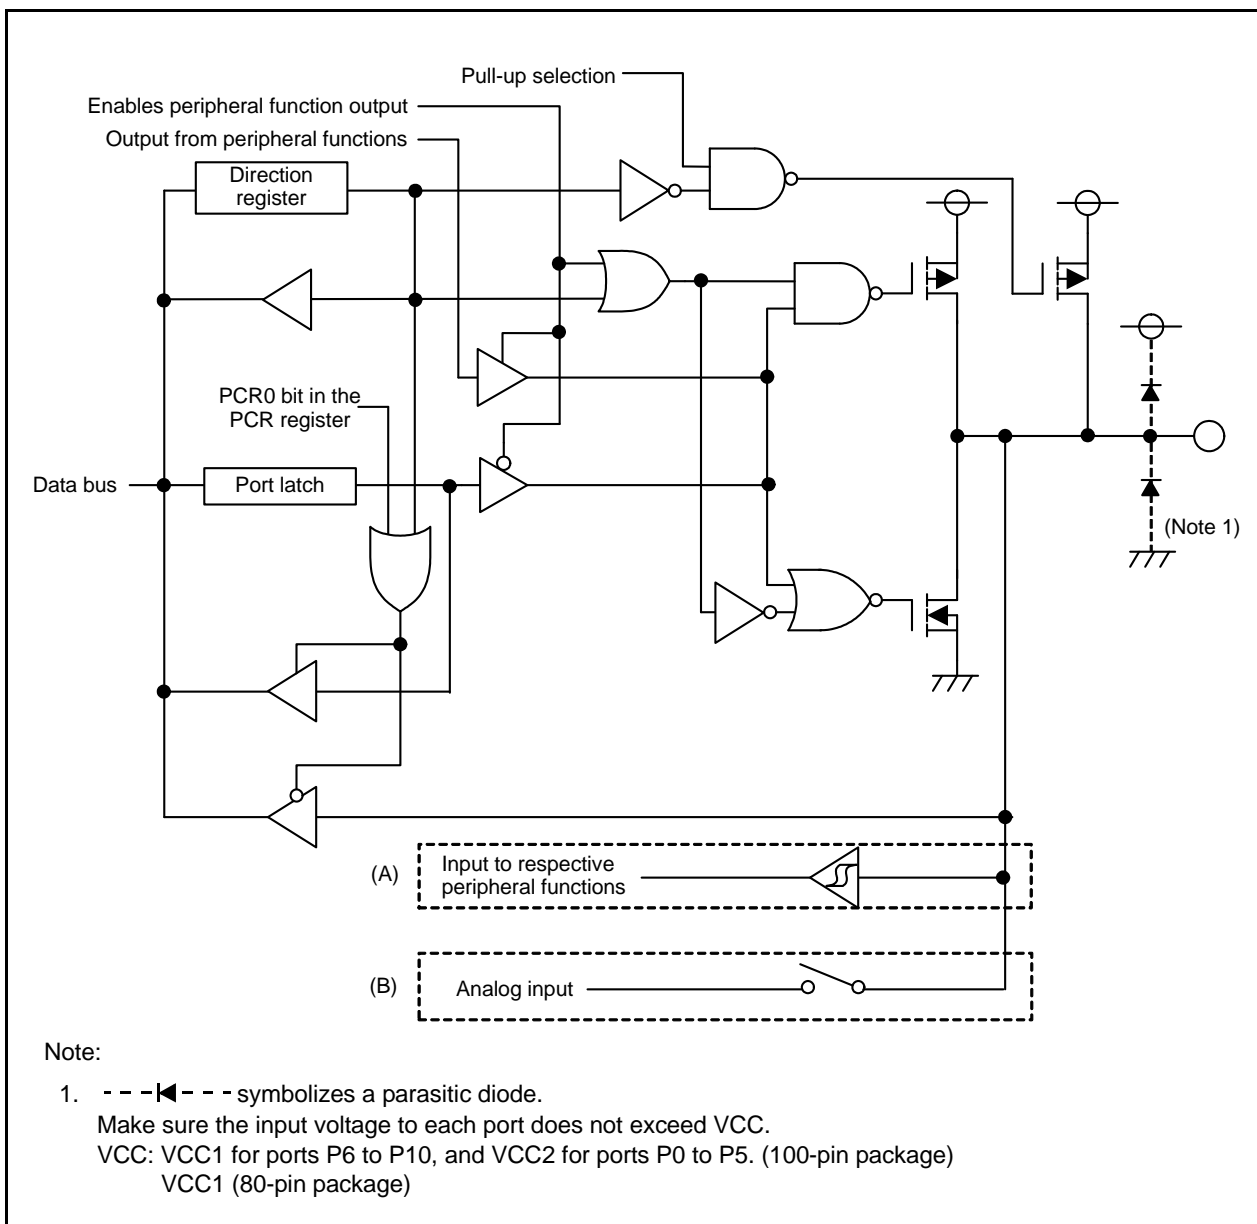

Figure 13.4 I/O Ports (Port P1 + Output from Peripheral Functions)
Peripheral function input (A) in Figure 13.4	Analog input (B) in Figure 13.4